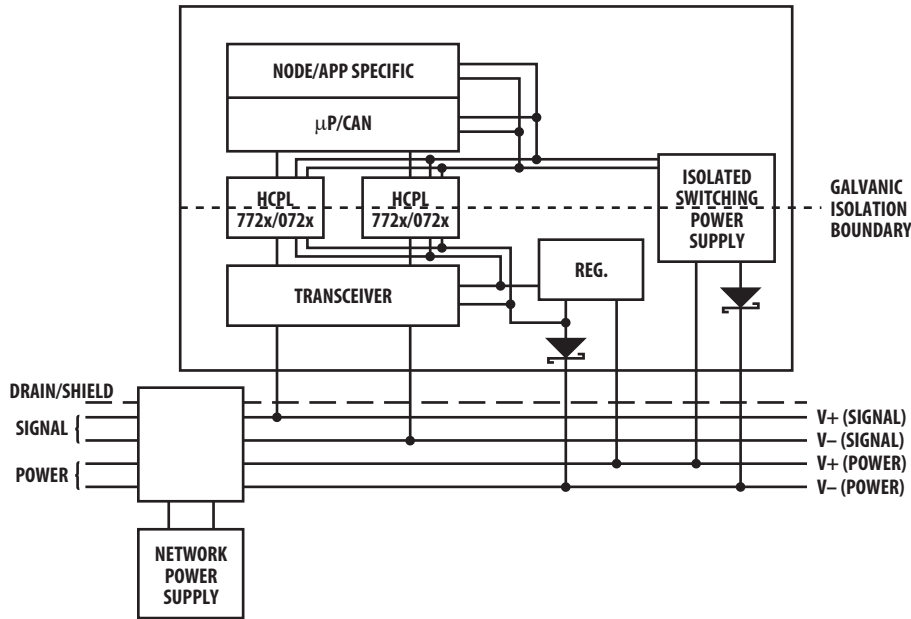
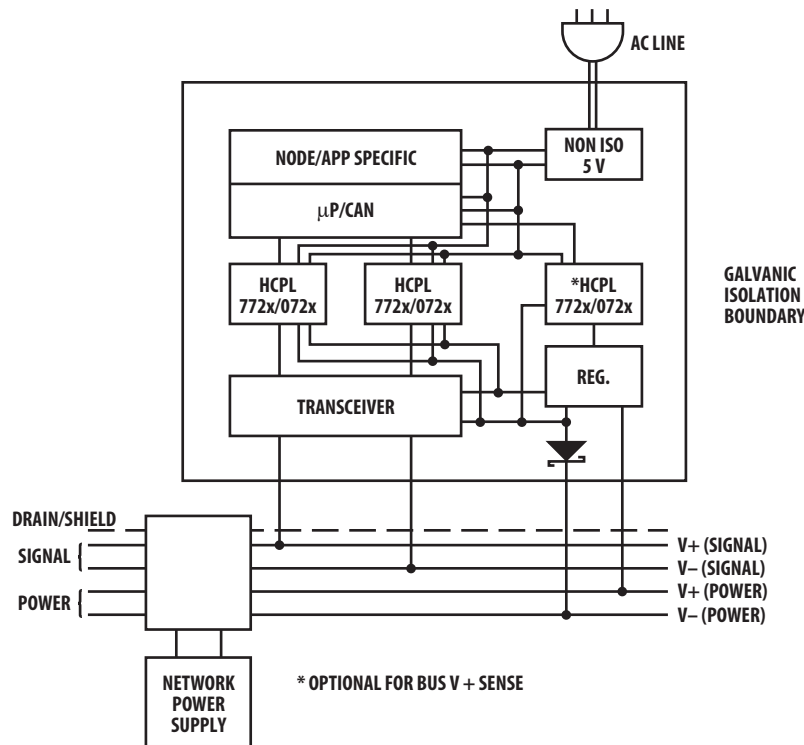
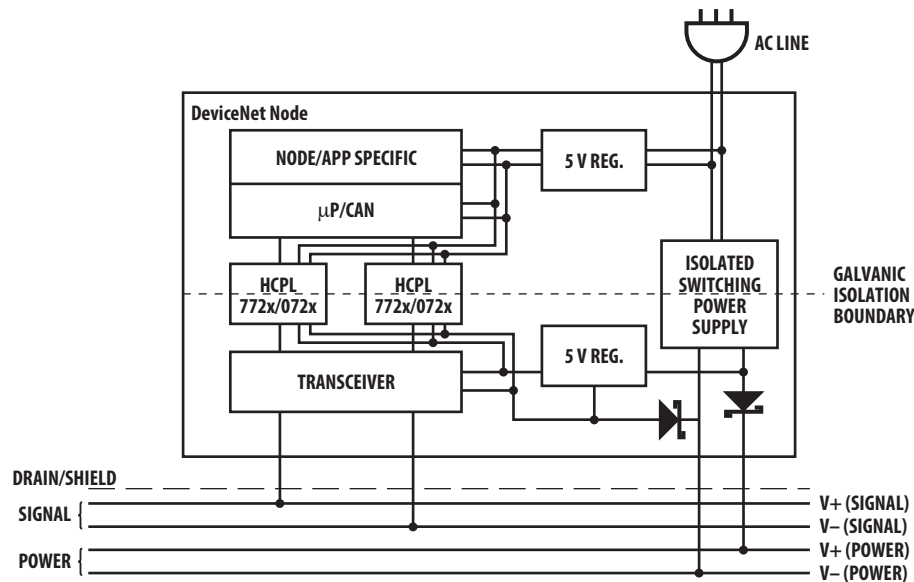

Figure 18. Isolated node powered by the network.
Figure 19. Isolated node with transceiver powered by the network.
Figure 20. Isolated node providing power to the network.
With transmission rates up to 1 Mbit/s, both DeviceNet and SDS are based upon the same broadcast-oriented, communications protocol — the Controller Area Network (CAN). Three types of isolated nodes are recommended for use on these networks: Isolated Node Powered by the Network (Figure 18), Isolated Node with Transceiver Powered by the Network (Figure 19), and Isolated Node Providing Power to the Network (Figure 20).
This type of node is very flexible and as can be seen in Figure 18, is regarded as “isolated” because not all of its components have the same ground reference. Yet, all components are still powered by the network. This node contains two regulators: one is isolated and powers the CAN controller, node-specific application and isolated (node) side of the two optocouplers while the other is non-isolated. The non-isolated regulator supplies the transceiver and the non-isolated (network) half of the two optocouplers.
Figure 19 shows a node powered by both the network and another source. In this case, the transceiver and isolated (network) side of the two optocouplers are powered by the network. The rest of the node is powered by the AC line which is very beneficial when an application requires a significant amount of power. This method is also desirable as it does not heavily load the network.
It is suggested that the Bus V+ sense block shown in Figure 19 be implemented. A locally powered node with an un-powered isolated Physical Layer will accumulate errors and become bus-off if it attempts to transmit. The Bus V+ sense signal would be used to change the BOI attribute of the DeviceNet Object to the “auto-reset” (01) value. Refer to Volume 1, Section 5.5.3. This would cause the node to continually reset until bus power was detected. Once power was detected, the BOI attribute would be returned to the “hold in bus-off” (00) value. The BOI attribute should not be left in the “auto-reset” (01) value since this defeats the jabber protection capability of the CAN error confinement. Any inexpensive low frequency optical isolator can be used to implement this feature.
Figure 20 shows a node providing power to the network. The AC line powers a regulator which provides 5 V locally. The AC line also powers a 24 V isolated supply, which powers the network, and another 5 V regulator, which, in turn, powers the transceiver and isolated (network) side of the two optocouplers. This method is recommended when there is a limited number of devices on the network, which do not require much power, thus eliminating the need for separate power supplies.